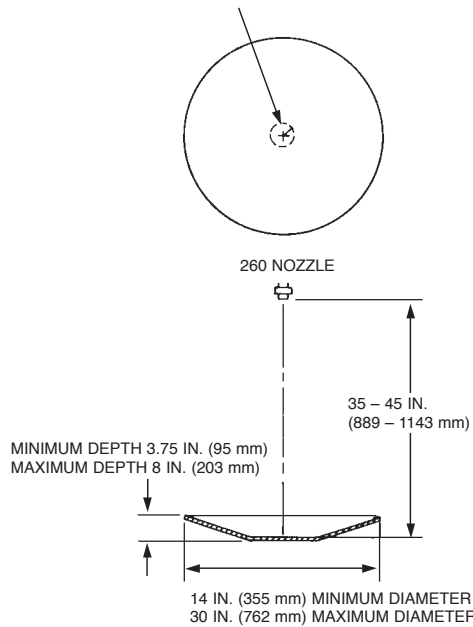

FIGURE 4-64
- ▶ The nozzle is stamped with 260 indicating that this is a two-flow nozzle and must be counted as two flow numbers. When using this nozzle, the nozzle must be positioned as shown in Figure 4-64.